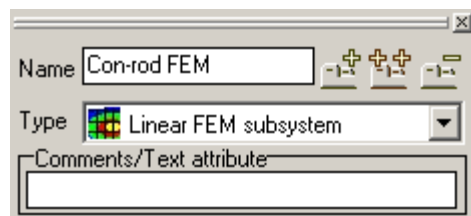

Figure 2.18.
3. Set **Name** to **Con-rod FEM** (Fig. 2.18.).